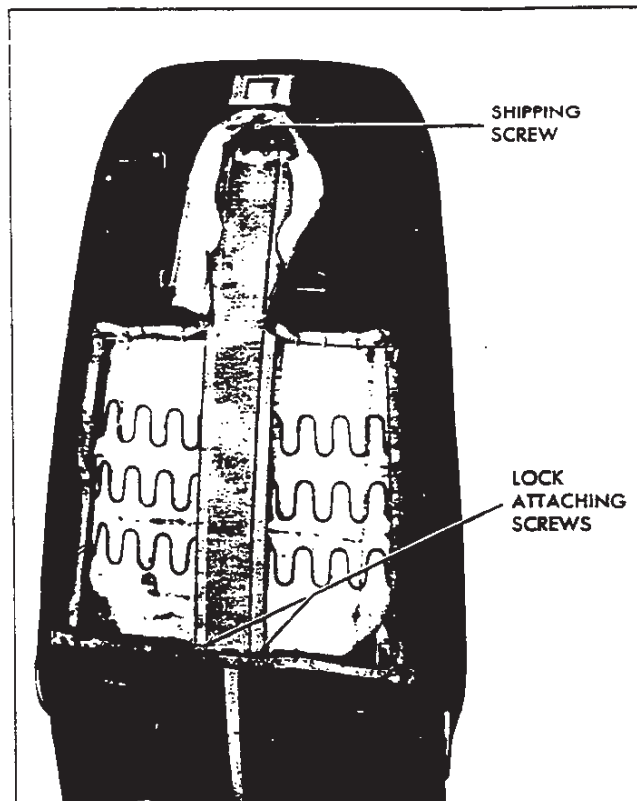

Fig. 48—Front Seat Back Lock Attachments
2. **IMPORTANT:** If removing and reinstalling same lock assembly, install lock up screw at location shown in Figure 48.
5. To install seat back lock assembly, reverse removal procedure. **IMPORTANT:** After all lock assembly attaching screws, including lock strap-to-cushion frame screws, have been tightened, remove lock up screw at location shown in Figure 48.